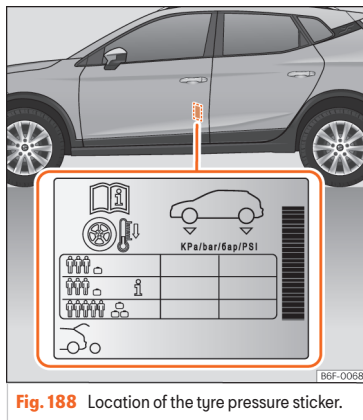

Fig. 188 Location of the tyre pressure sticker.
- Adjust tyre pressure to the load being carried by the vehicle »»» Fig. 188.
The values of the tyre pressure are shown on the sticker label located on the read frame of the front left door »» Fig. 188.
The tyre pressure must be adjusted according to the load the vehicle is carrying. If the vehicle is going to be fully loaded, increase the tyre pressure to the maximum load value shown on the sticker label »» Fig. 188.
In the case of a minimised temporary spare wheel (125/70 R16 or 125/70 R18) inflate to a pressure of 4,2 bar as indicated on the tyre pressure label »» Fig. 188.
Depending on the vehicle, tyre pressure can be adjusted to medium load to improve driving comfort [tyre pressure **i** »» Fig. 188]. When driving with comfort tyre pressure fuel consumption may increase slightly.
- **The driver is responsible for ensuring that all of the vehicle tyres are correctly inflated to the right pressure. The recommended tyre pressure is indicated on the label »» Fig. 188.**
- **Tyre pressure should be that indicated on the label when the tyres are cold at all times »» Fig. 188.**